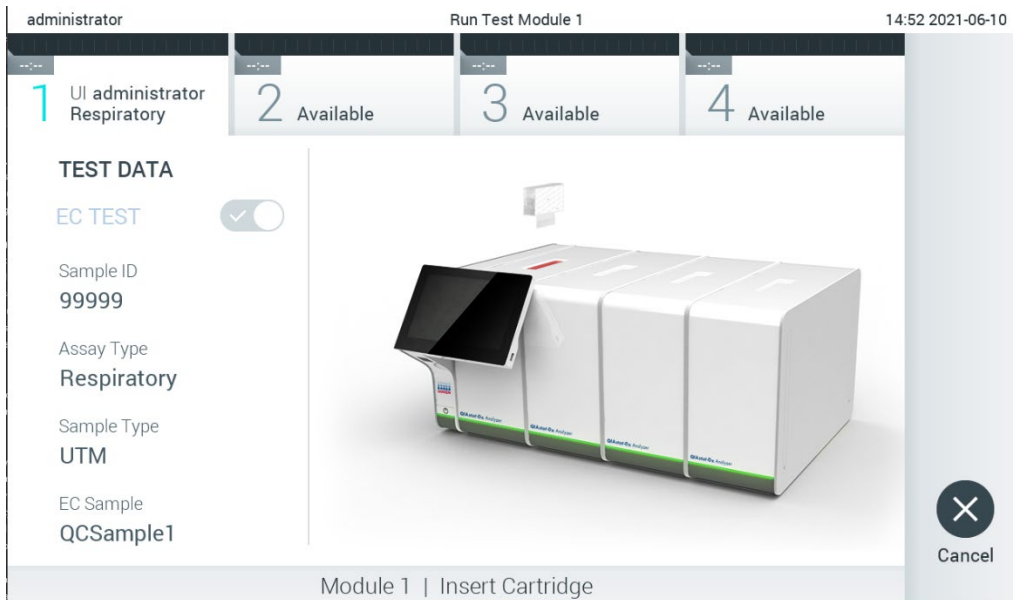

Figure 94. Inserting QIAstat-Dx assay cartridge into QIAstat-Dx Analyzer 1.0.
9. Make sure that both sample lids of the swab port and main port of the QIAstat-Dx assay cartridge are firmly closed. When the cartridge entrance port on the top of the QIAstat-Dx Analyzer 1.0 automatically opens, insert the QIAstat-Dx assay cartridge with the bar code facing to the left and the reaction chambers facing down (Figure 94).